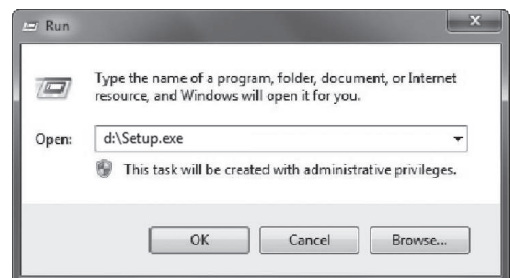

Fig. 75
- type command line **D:\Setup.exe** in opened window, (here **D:** - symbol for storage drive in that particular PC) (Fig. 75).